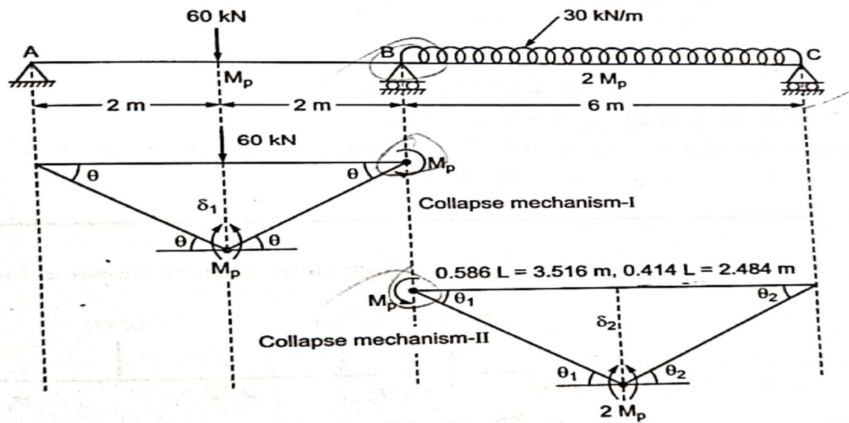

Fig. 10.34 Beam mechanism
The loading is shown in Fig. 10.34.
(I) From Collapse Mechanism-I (Refer Fig. 10.34)
(II) From Beam Mechanism-II (Refer Fig. 10.34)